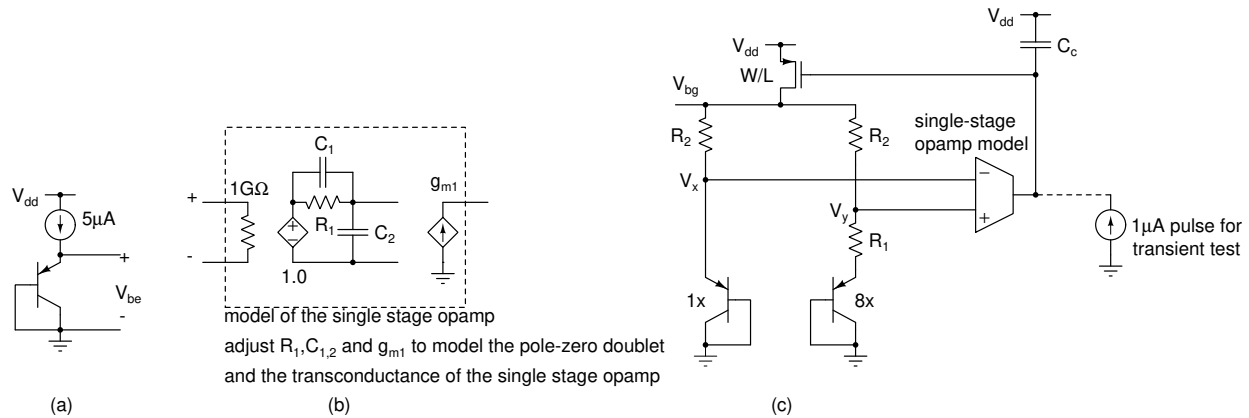

Figure 10.1: Problem 10.1. (a) Fully differential opamp with a pMOS input pair, (b) Fully differential opamp with a nMOS input pair, (c) Test circuit.
10.1. **Bandgap reference:** Bias a 1x sized diode connected PNP⁴ at 5μA as shown in Fig. 10.1(a) and sweep the temperature from 0 to 100°C. Determine dV_{BE}/dT at 50°C.
Design the bandgap shown in Fig. 10.1(c). Choose R_1 for a quiescent current of 5μA and R_2 to get zero temperature coefficient at V_{bg} . Simulate the bandgap reference with the model of a single stage opamp assuming that the single stage opamp is made as in the earlier assignment. (Fig. 10.1(b)-model the gm, and the pole zero doublet). Choose C_c for ringing $\leq 10\%$. Test the bandgap reference by sweeping the temperature from 0 to 100°C and plot V_{bg} . Test the transient response by applying a 1 uA pulse to the output of the opamp. Adjust the values of R_1 and R_2 if necessary to get zero TC at 50°C.